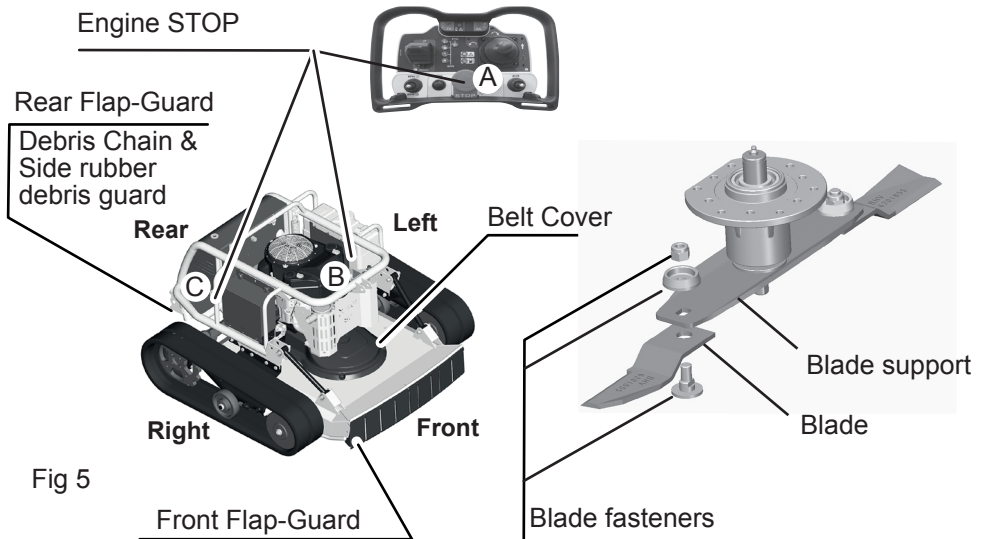

Fig 5
The terms “FRONT” - “REAR” - “RIGHT” - “LEFT” used in this handbook and in the spare parts catalogue, are referred to the machine as shown in Fig. 5
- 1- engine STOP device (A), (B) and (C) (fig.5)